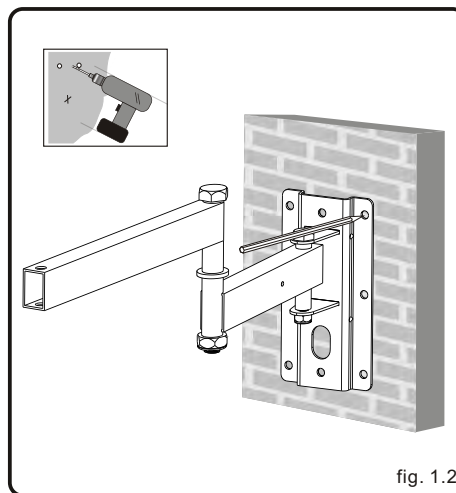

fig. 1.2
- Use the wall plate as a template to mark six holes locations on the wall, as shown in fig.1.2.